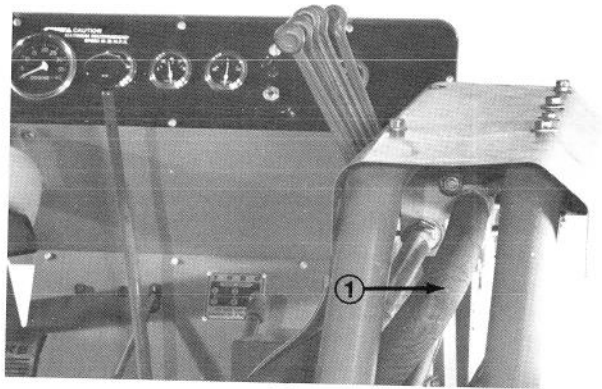

Figure 41
2. Drain system by disconnecting the pressure hose at the rear of valve bank and placing it into a suitable drain pan. Start and run engine at idle to pump the fluid out of the system (Fig. 41).